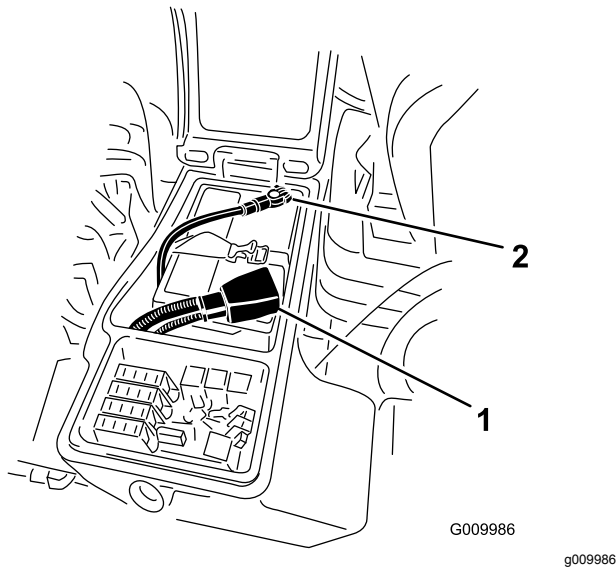

Figure 61
4. Install the positive cable (red) to the positive (+) terminal and the negative cable (black) to the negative (-) terminal of the battery (Figure 61).